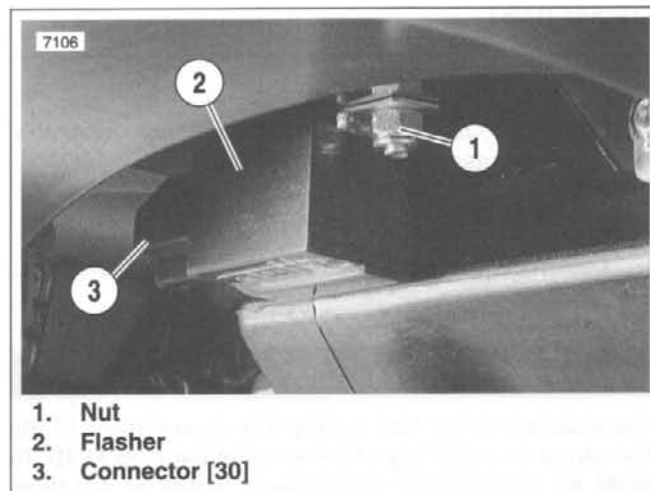

Figure 7-50. Turn Signal Flasher (1999 Shown)
1. See Figure 7-50. Remove nut (1) to free flasher (2) from bottom of ECM bracket.
2. Detach 3-place connector (3) [30] from flasher body.
1. See Figure 7-50. Attach 3-place connector (3) [30] to flasher.
2. Install nut (1) to secure flasher (2) to bottom of ECM bracket.